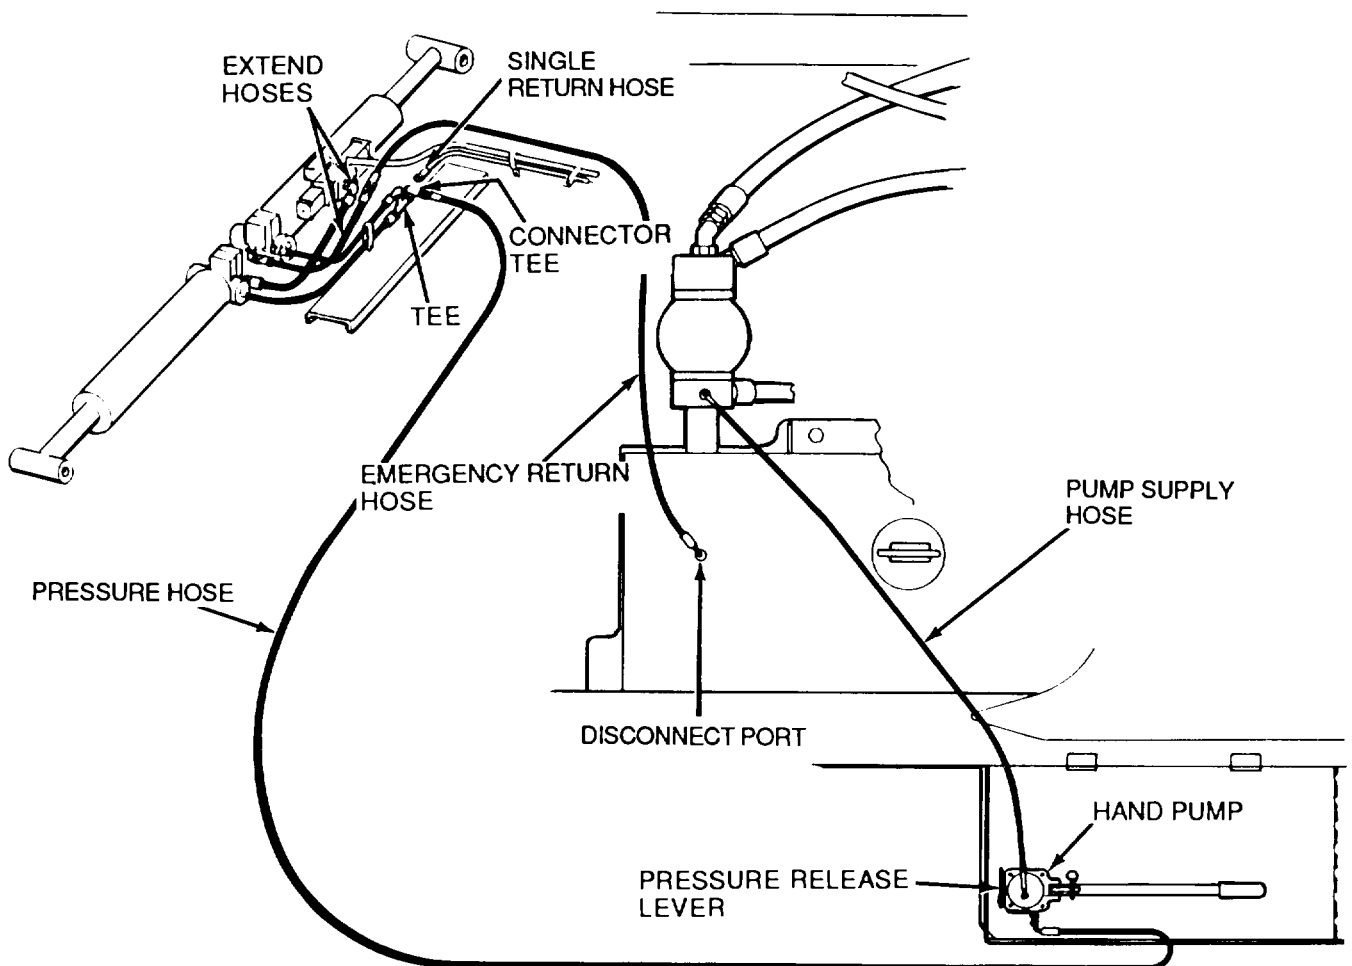

Figure 4-56. *Lowering the LRT Crane off the Outriggers*
6. Remove plug and place elbow and female quick disconnect on one end of emergency return hose and connect hose to disconnect port on top of hydraulic reservoir. Remove cap and connect other end of emergency return hose to outrigger extend hose (Figure 4-56).